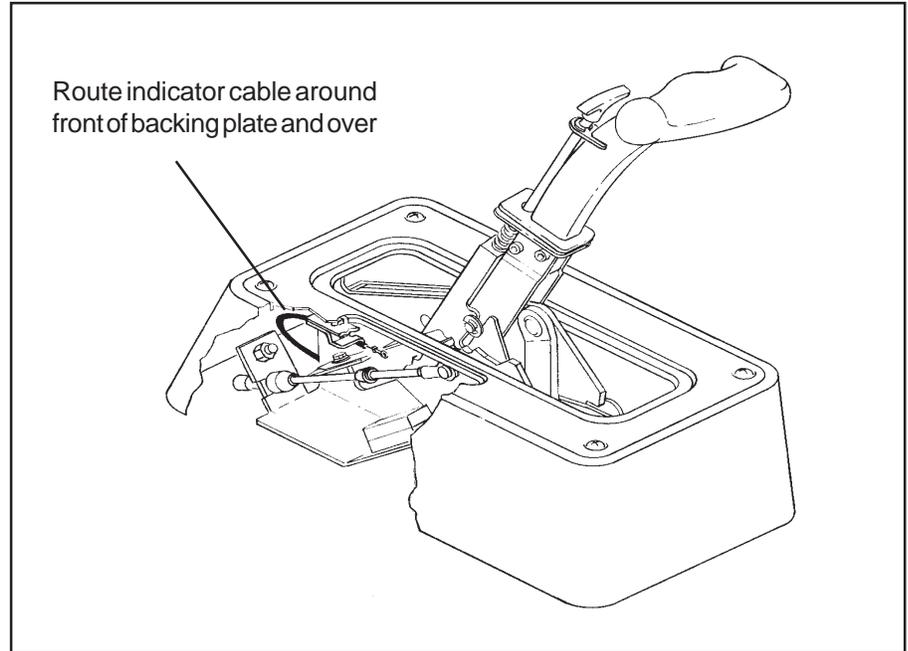

Figure 10
**STEP 32.** Snap the shift position window into the cover plate. The window snaps in from the top with tabs inserting into the slots at either end of the window opening. Place the shifter in the Park position then remove the T-Handle from the shifter. Place the cover plate over the stick and onto the top of the tower. Route the indicator cable as shown in **Figure 10**. (If the cable is not routed this way, the indicator may bind. Run the shifter through all of the gears to check the operation of the indicator. If the indicator needs adjustment, loosen the screws holding the indicator cable clamp to the cover plate and slide the cable bracket to adjust the indicator position. (Re-tighten these screws carefully since they are threaded into the plastic.) Attach the cover plate to the tower with four Phillips head screws.